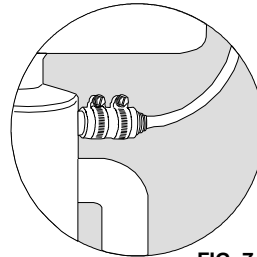

FIG. 7
4. Follow instructions 5, 6, & 10 of Configuration – A to complete the installation. (Only the “cut branch” will be used in instruction 6, discarding the leftover section of adapter... See Fig. 7)